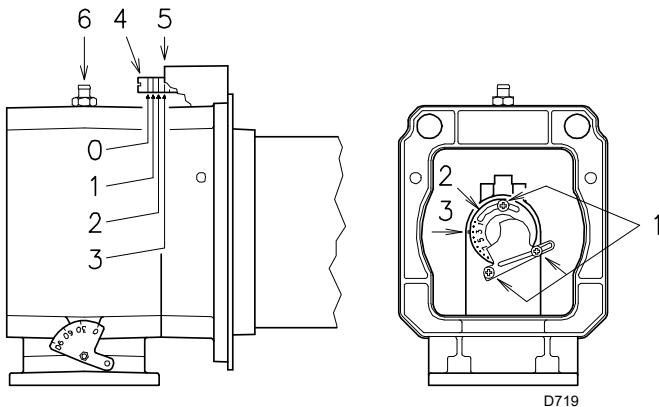

Fig. 15
- Turn the screw 4)(Fig. 15) until the notch found lines up with the front surface 5) of the flange.
To facilitate the adjustment, loosen the screw 6)(Fig. 15), adjust, then block.
- Loosen the screws 1)(Fig. 15) and rotate the ring nut 2) until the notch you have found corresponds with the indicator 3).